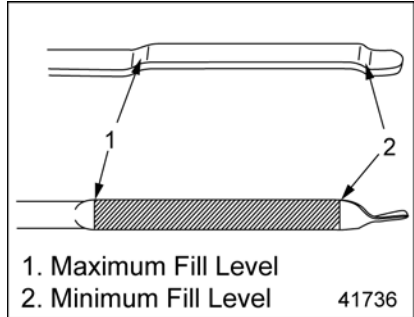
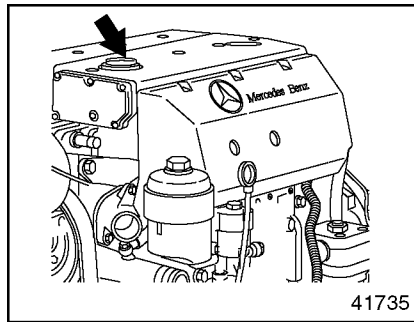

Figure 22 Oil Dipstick
Figure 23 Oil Fill Collar
1. Check the oil level using the oil dipstick (see Figure 22).
2. If necessary, top off by filling engine oil through the oil fill collar (see Figure 23) until the maximum fill level on the oil dipstick (see Figure 22) has been reached. For detailed procedures, refer to the "Maintenance" section. Do not overfill.